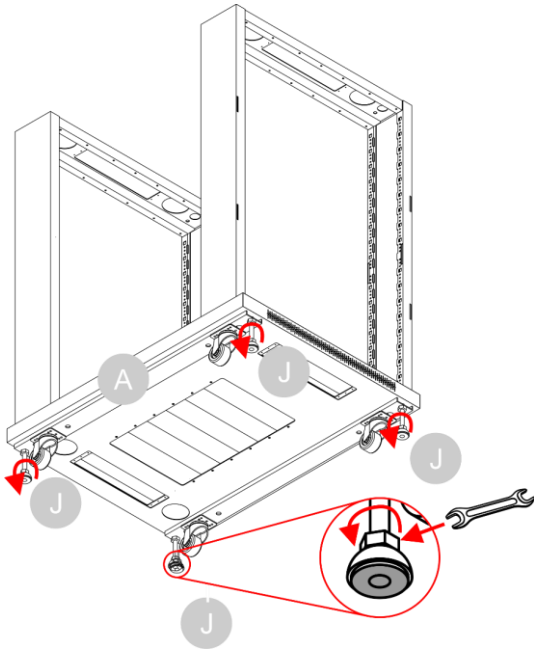

Fig. 25
- 08) Make sure that the **adjustable feet (J)** are extended more than the **wheels (K)**. If necessary, use a wrench to turn the bottom nut of the **adjustable feet (J)** counterclockwise, as shown in Fig. 25. This will prevent the cabinet from rolling on the wheels when you put it in upright position.